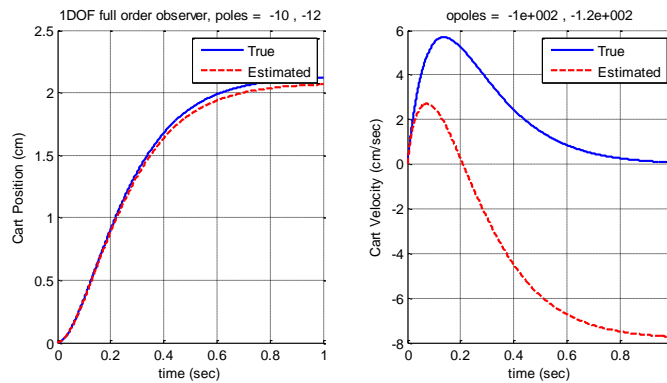
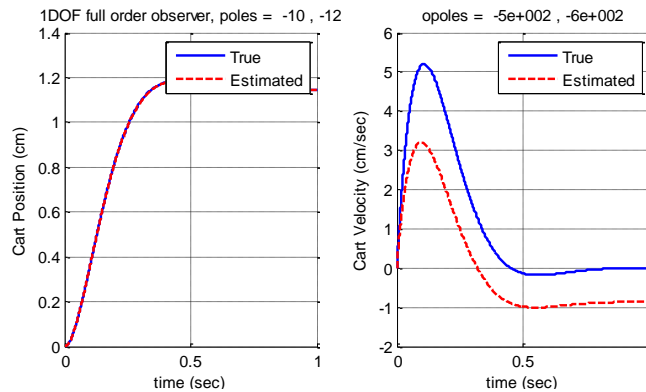

Figure 11: Full order observer for a model error for 1DOF system with 10x state feedback poles
Figure 12: Full order observer for a model error for 1DOF system with 50x state feedback poles
- Change the observer poles so they are ten times further from the imaginary axis than the state feedback poles (observer poles at $10*p$). You should get the results shown in Figure 11. If you place the observer poles 50 times away from the state feedback poles, you get the result in figure 12. Note that as the observer poles get further away, the estimates get better. **Be sure to set AA=A before you go on.**